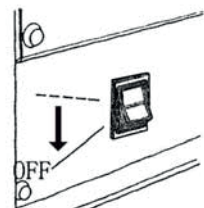

Fig. 35
6.2.3 Set the ignition switch to OFF position(Figure 35)